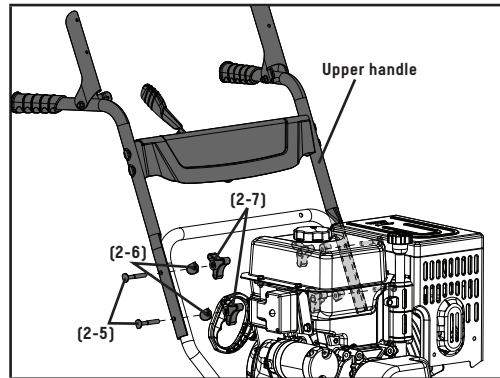

Figure 2
2. Connect the upper handle and lower handle with bolts (2-5), washers (2-6) and locking knobs (2-7) (Fig. 2).